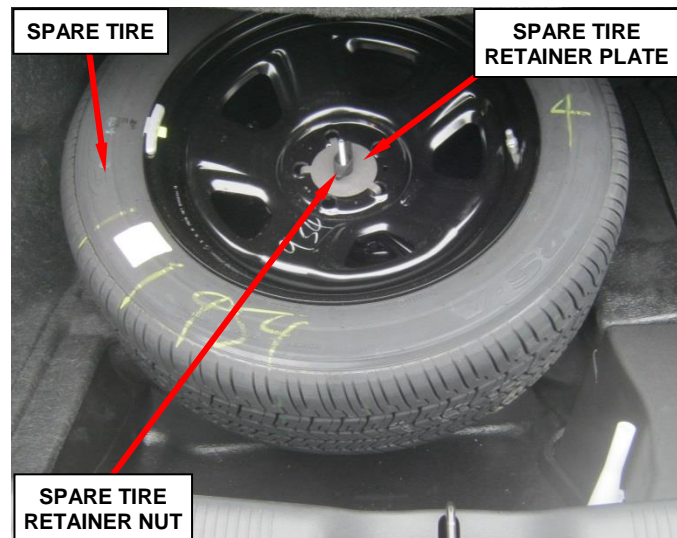

Figure 2 – Full Size Spare Tire
4. **If equipped with a full size spare tire**, remove and save the spare tire retainer plate (Figure 2).
12. **If equipped with a full size spare tire**, install the spare tire retainer plate (Figure 2).